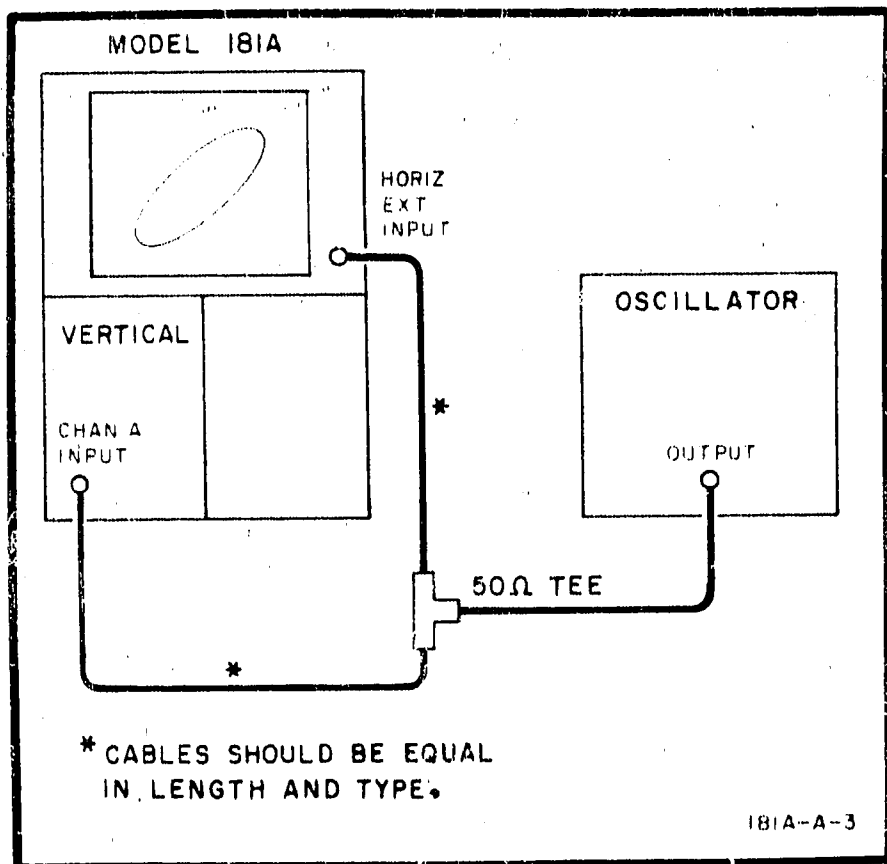

Figure 5-2. Phase Adj. Test Setup
- b. Connect 10-kHz sine-wave output of Oscillator to HORIZONTAL EXT INPUT and to Vertical plug-in Channel A input (Figure 5-2).